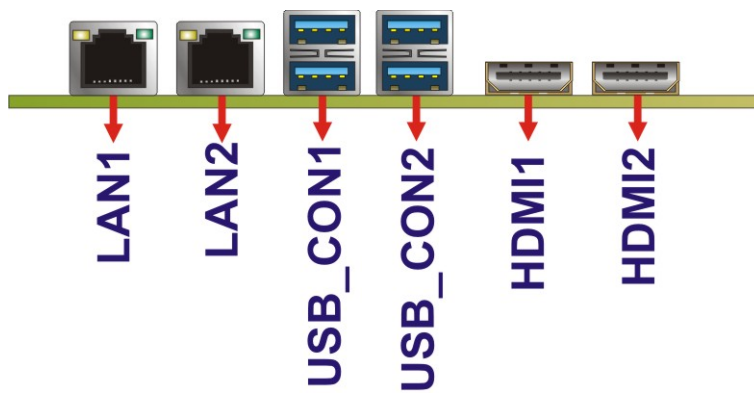

Figure 3-29: External Peripheral Interface Connector
Figure 3-29 shows the NANO-ULT3 external peripheral interface connector (EPIC) panel. The EPIC panel consists of the following:
- CN Location:** See **Figure 3-29**
CN Location: See **Figure 3-29**